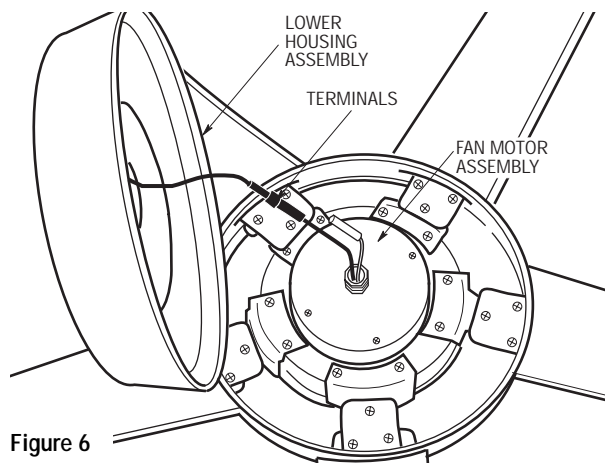

Figure 6
- ☐ 9. Connect the terminals of the lower housing assembly to the terminals of the fan motor assembly (Figure 6).